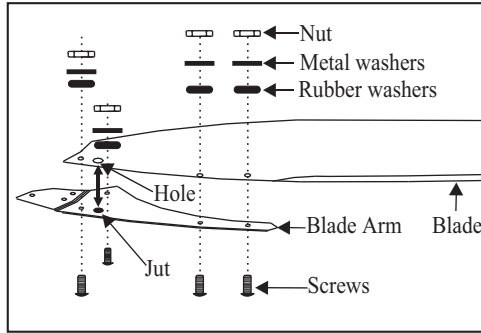

Figure 13
Step 1. Attach the blades to the blade brackets using the screws, nuts, metal washers and rubber washers provided as shown in Figure 13, be sure the jut on the blade bracket to be positioned on the hole located on the blades before screw installation. Starting a screw into the bracket and blade, repeat for the other 3 screws, **DO NOT** tighten too much as the blades may crack.